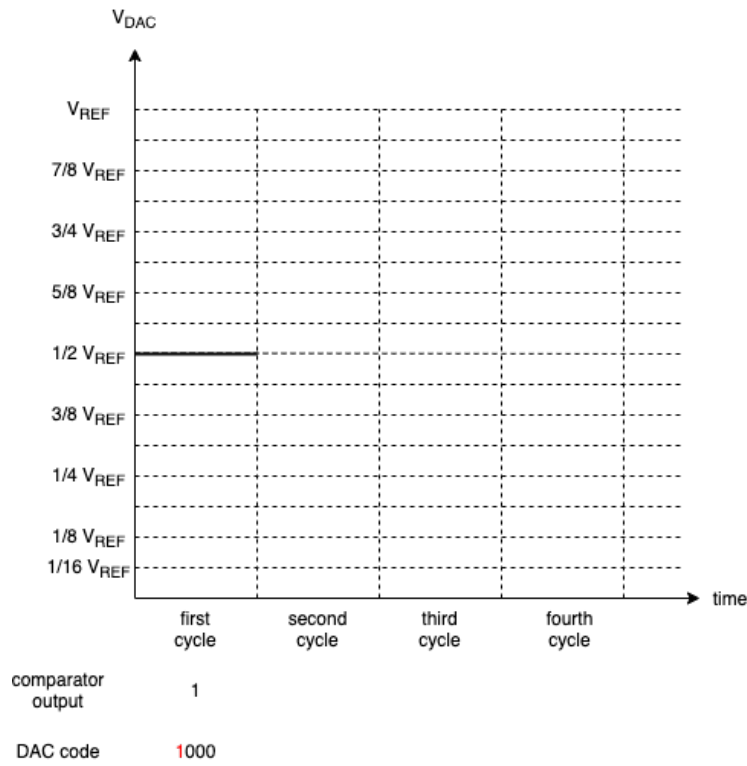

Figure 13: SAR ADC  $V_{DAC}$  timing diagram
- i. **Plot the output voltage of the DAC in the timing diagram in Figure 13.**